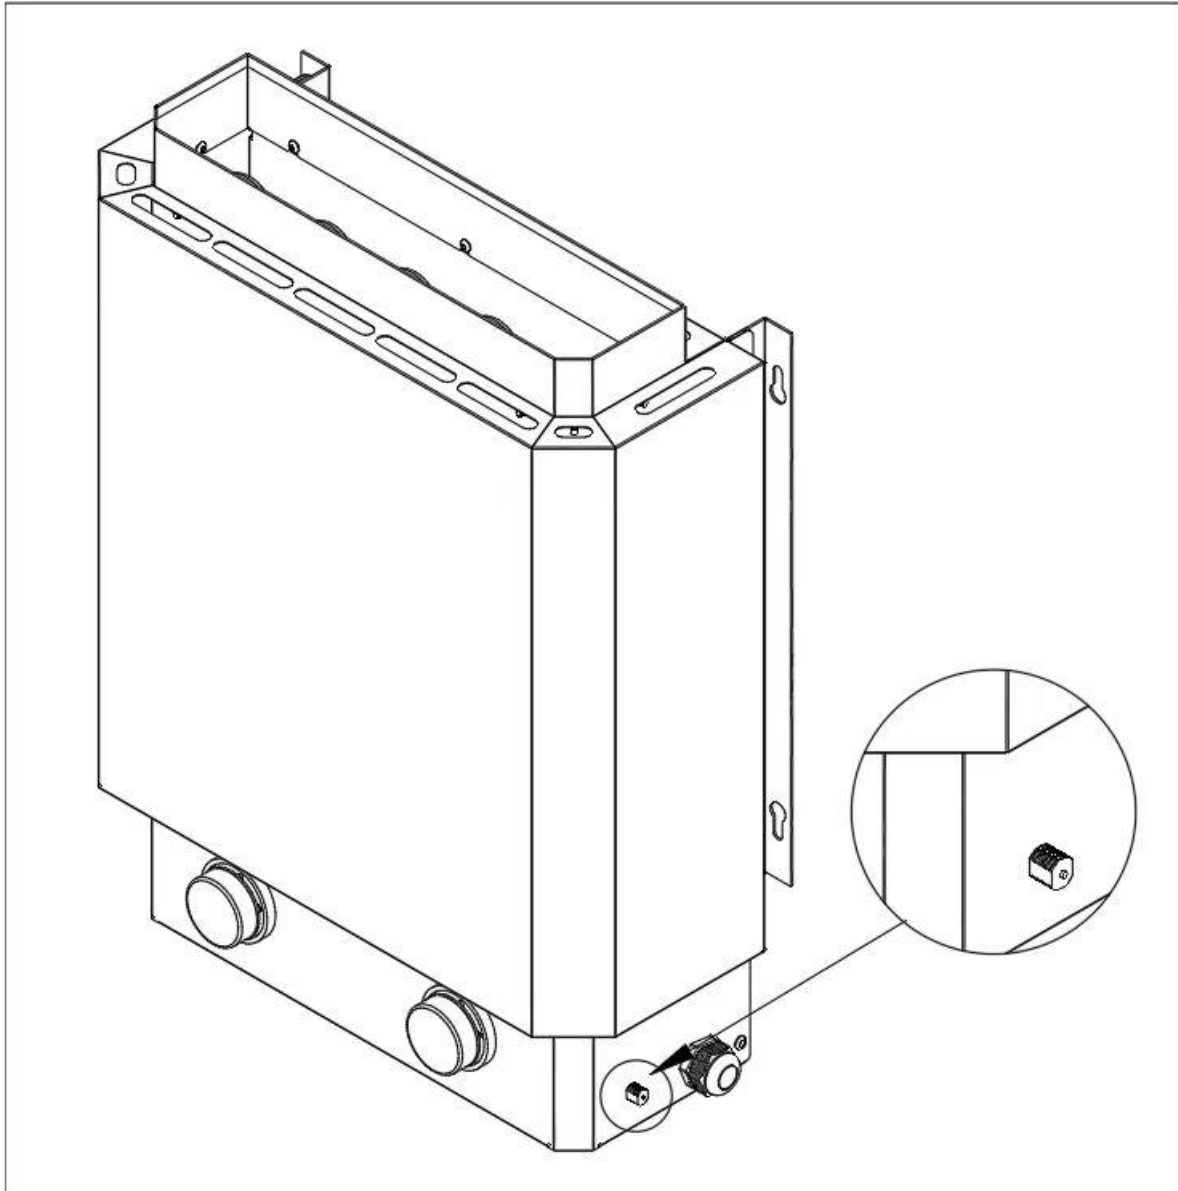
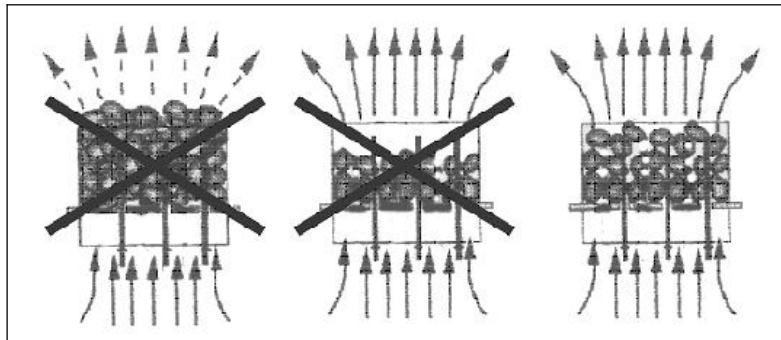
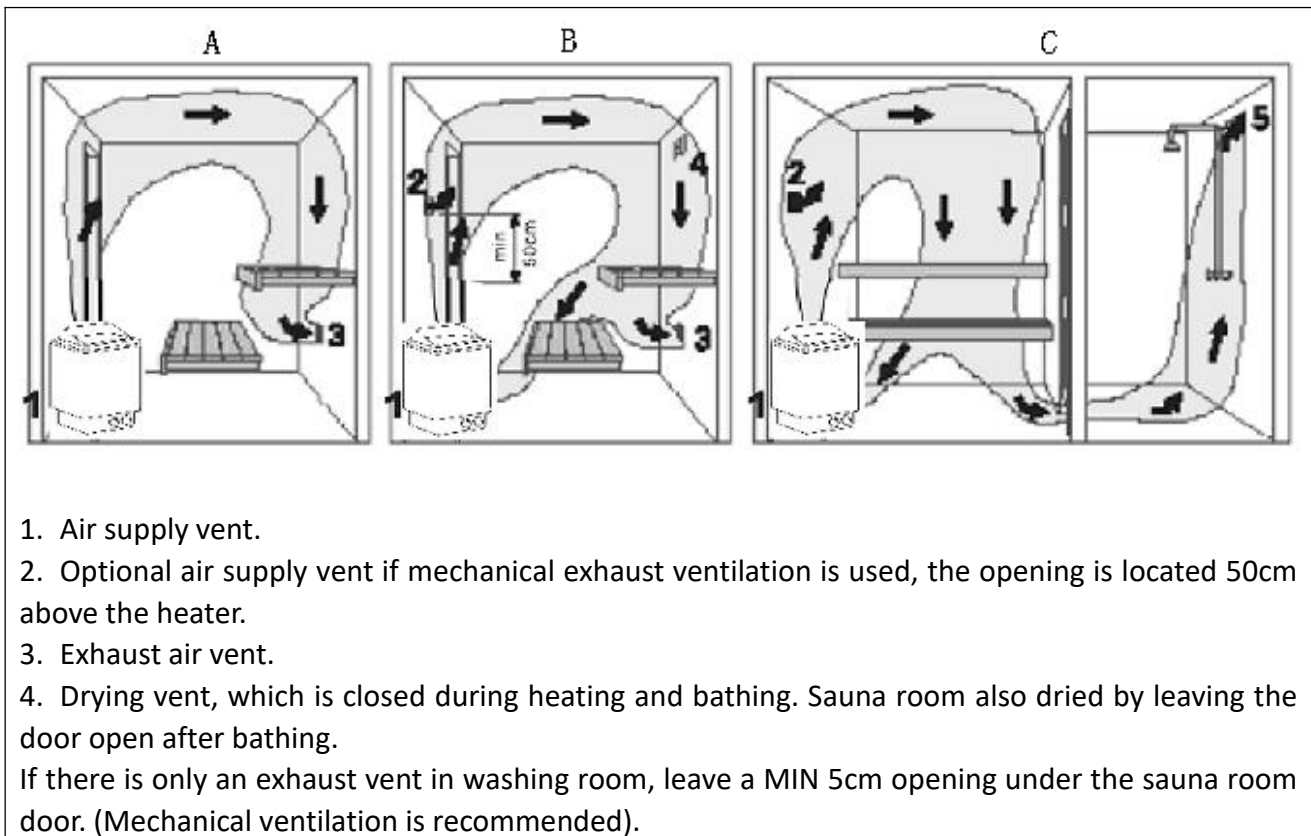

Figure 4 Reset button for over-heat protector
Figure 5: (PILING OF THE SAUNA STONE)
Figure 6: (location of inlet and outlet vent)
- ① Plug ② Reset button for over-heat protector (Refer to Figure 4) ③ Temperature setting switch
- ④ Time setting switch ⑤ 3KW heating elements ⑥ Ground wire
If the temperature of the sauna room becomes dangerously high , the overheat protector will permanently cut off the supply of the heater. The overheating protector (**Figure 4**) can be reset after the heater has cooled down. Please check that the stones are piled properly(**Figure 5**) and ensure proper air circulation in the room with inlet and outlet vents (**Figure 6**) .
- **The stones should not be placed too tightly or too loosely. The stones should averagely cover the heater element. (See figure 5).**